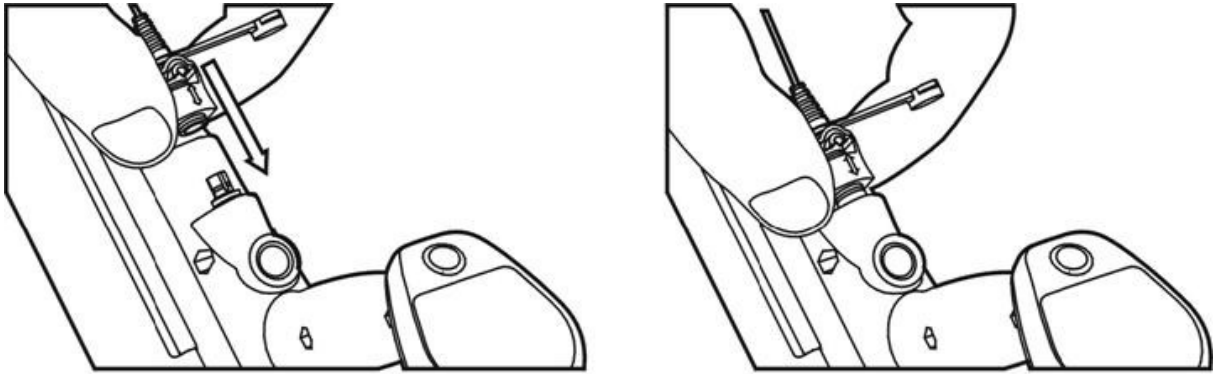

Figure 7: Connecting the Earset
- Plug the earset into the detector as shown in Figure 7.